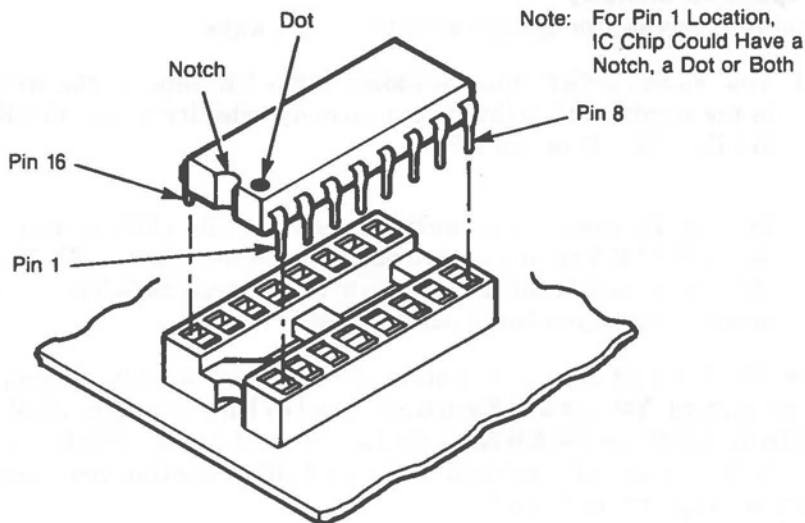
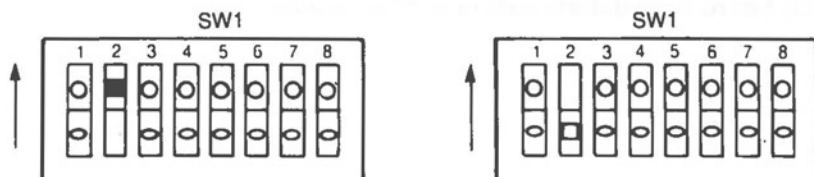
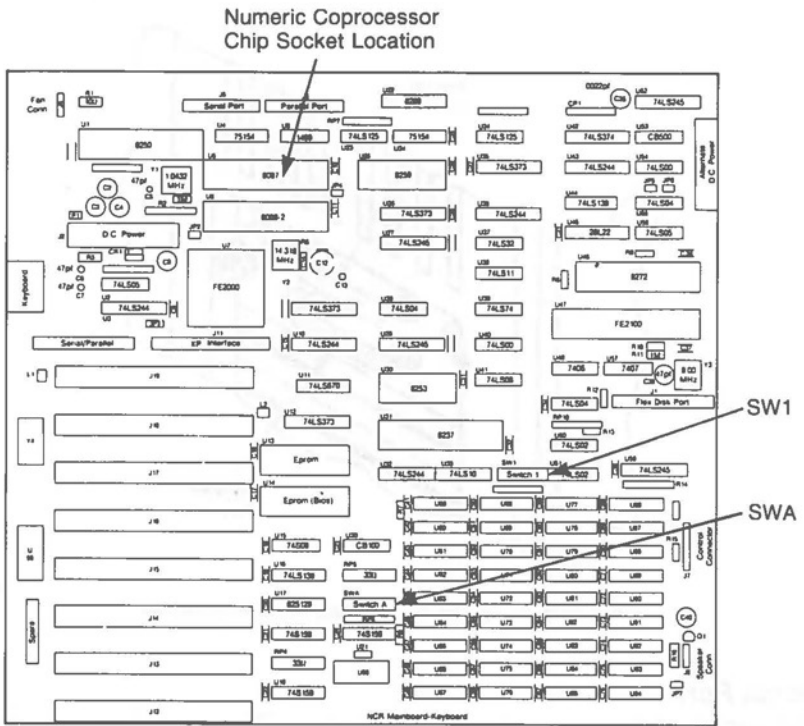

Figure 3-19 Chip Orientation
Figure 3-24 MPB SW1 Switch Settings
Figure 3-25 MPB Chip Socket Location
Refer to the cabinet disassembly section in the front of this chapter for instructions to remove the card rack assembly. Then follow the instructions given in the expanded memory section of this chapter to install the chips in the board (see Figure 3-19).
1. Orient the pins correctly, make sure that pin 1 of the new chip is oriented the same as those already installed (see Figure 3-19).
The Numeric Coprocessor can be installed to the MPB to enhance the arithmetic capabilities of your system. Follow the instructions given in the memory expansion section of this chapter to install the chip (refer to Figure 3-19). Refer to Figure 3-25 for chip location. You need to change the switches for MPB SW1 switch block (see Figure 3-24).
You may need to remove boards to get to the chip socket and switches (see Figure 3-25). Refer to the cabinet disassembly and board installation sections in the front of this chapter.